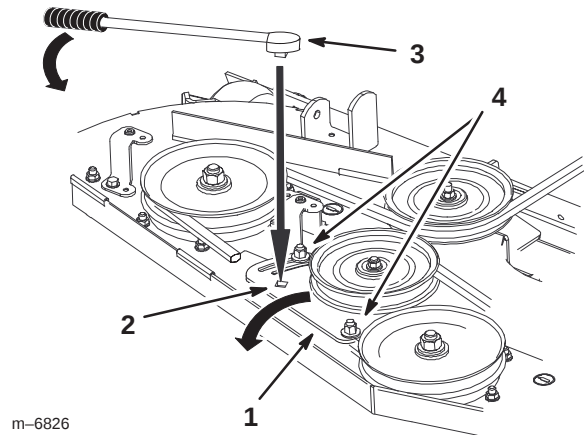

Figure 75
- Loosen the nut securing the idler plate and move the idler plate to relieve the belt tension on the idler pulley, then remove the worn mower belt (Fig. 75).
5. If adjustment is required, loosen the mower idler plate and adjust it (Fig. 75).
6. Insert a ratchet or breaker bar into the square hole in the mower idler plate to adjust the tension (Fig. 75).
7. To increase belt tension, rotate the mower idler plate until resistance is felt and rotation stops. Do not go past when it stops (Fig. 75).
8. Tighten the idler plate bolts (Fig. 75).
10. Adjust the belt tension and the idler plate, if necessary, and tighten all hardware securely (Fig. 75).